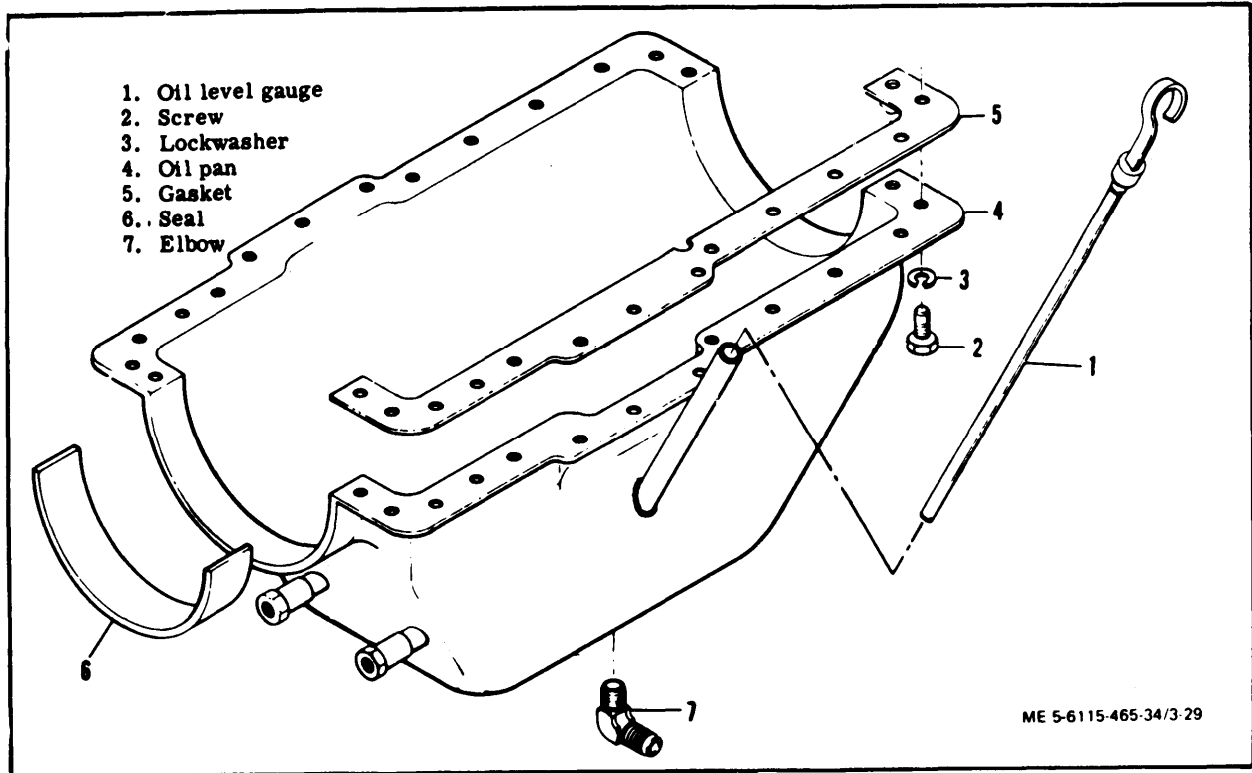

Figure 3-29. Oil Pan Assembly
(1) If generator set has winterization kits installed, refer to Operator and organizational Maintenance Manual and remove kits.
(2) Remove oil level gauge (1, figure 3-29).
(3) Remove elbow (7) from oil pan.
(4) Remove screws (2) and lockwashers (3) to lower oil pan (4) and remove gaskets (5), and seals (6). Discard seals and gaskets. Refer to paragraph 3-37 and remove oil pump assembly. Remove oil pan.